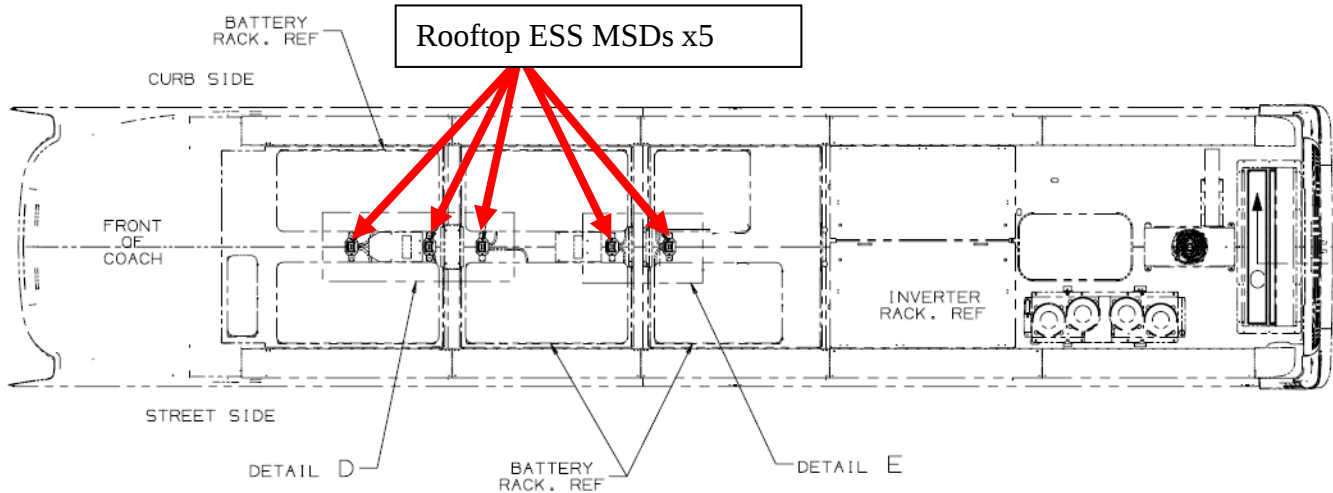

Figure 21: Rooftop ESS locations
3.4 Locate rooftop MSDs in figure 21.